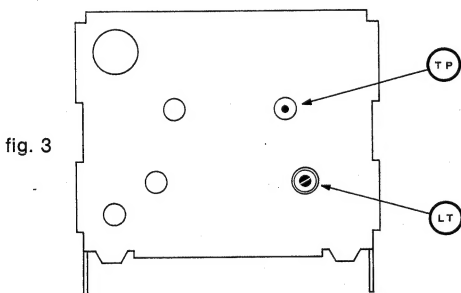
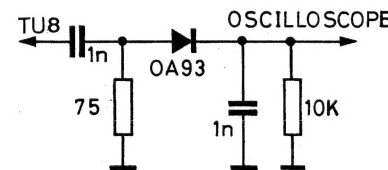
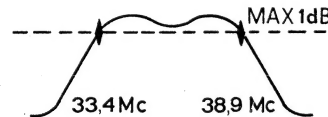

fig. 3
fig. 4
fig. 5
- connect the wobulator by means of 1nF on TP (fig. 3) and the oscilloscope by means of the detector (fig. 4) on TU 8.
- if necessary, regulate LT (fig. 3) to obtain the same curve as shown in fig. 5.